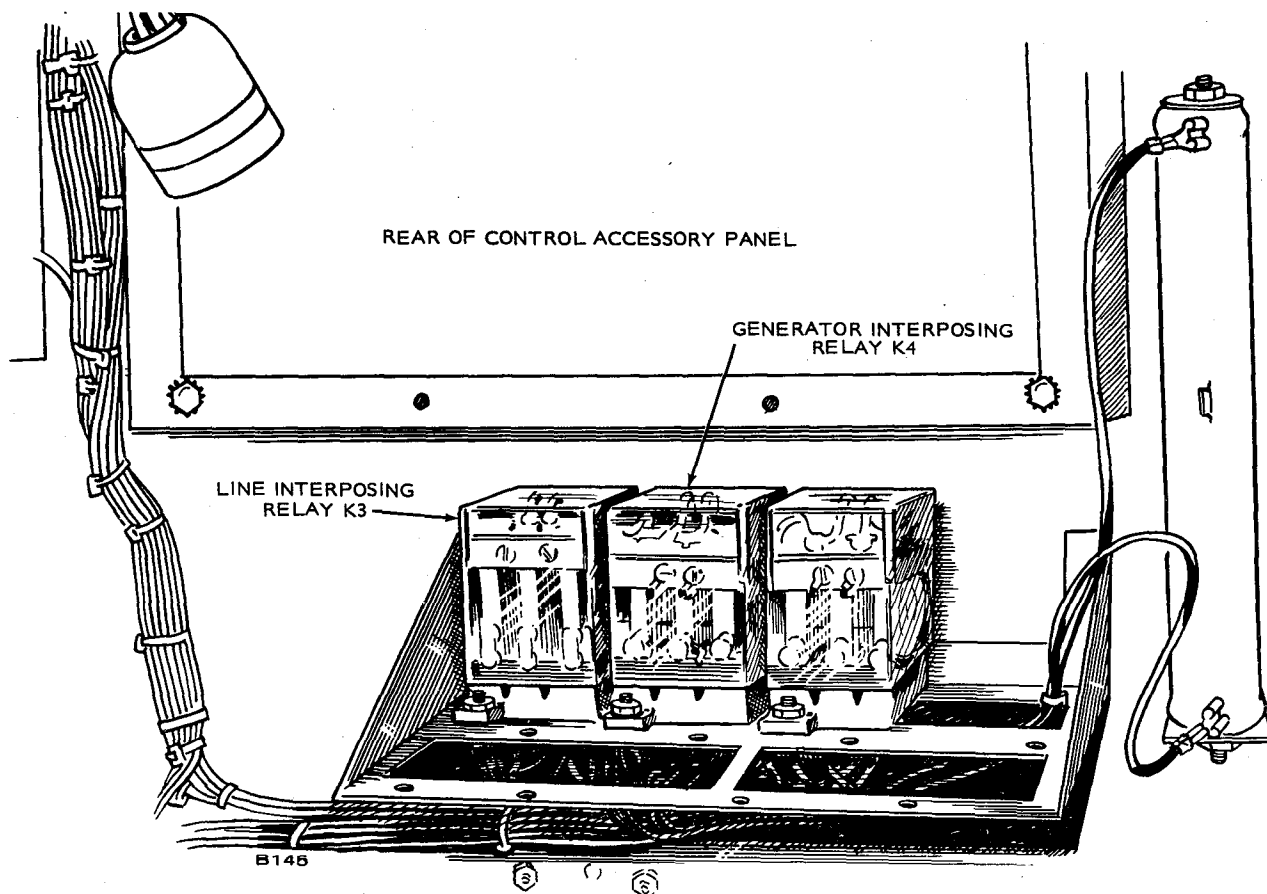

FIGURE 12. LOCATION OF INTERPOSING RELAYS
6. Locate generator interposing relay K4 (Figure 12).